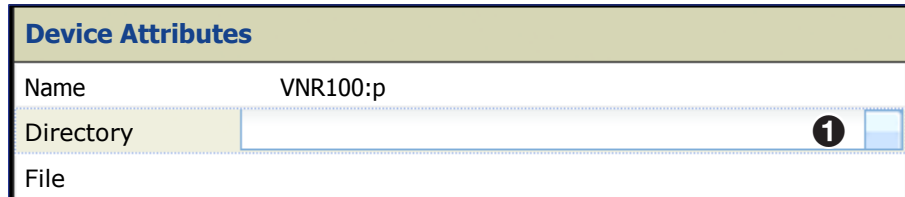

Figure 87. Select Directory Drop-down Box
3. Click anywhere inside the **Directory** field of the **Device Attributes** panel, then select the drop-down box on the right hand side (see figure 87, ①).